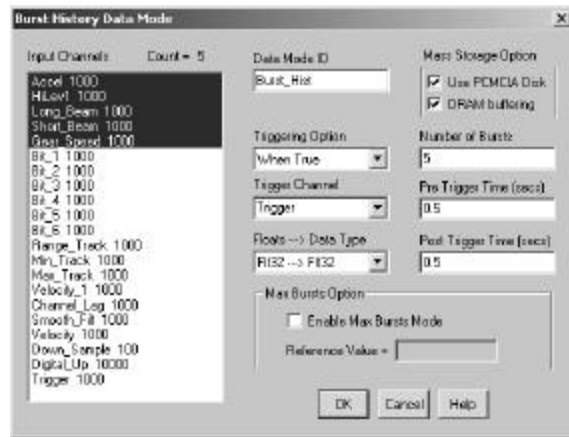

Figure 9-4: Burst History Definition Dialog Box
1. Select Burst History at the Select DataMode Type dialog box. The Burst History DataMode definition dialog box opens. **Figure 9-4** shows it with example definition data. The channels highlighted in the Input Channels list box have been selected as input channels for the DataMode.